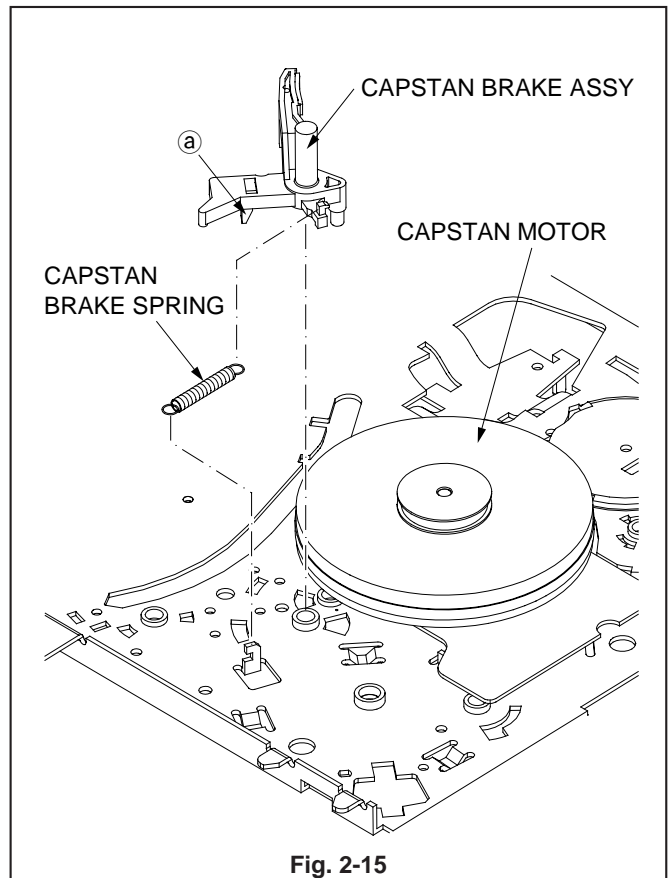

Fig. 2-15
1. Remove the CAPSTAN BRAKE SPRING shown in Fig. 2-15.
2. Remove the catch (a) of the CAPSTAN BRAKE ASSY shown in Fig. 2-15 to remove the CAPSTAN BRAKE ASSY.
1. Install the CAPSTAN BRAKE ASSY shown in Fig. 2-15.
2. Install the CAPSTAN BRAKE SPRING shown in Fig. 2-15.